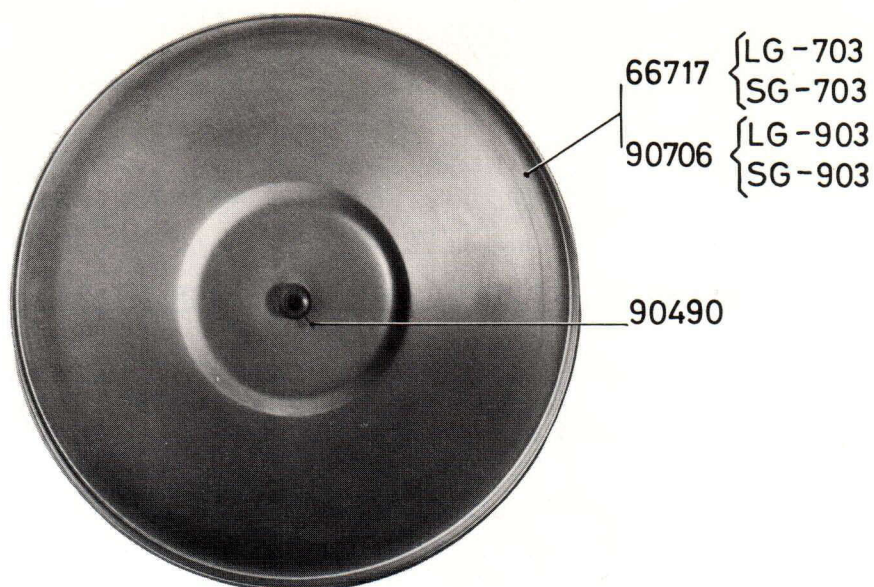

Fig.3
VISSA JUSTERINGAR KAN GÖRAS GENOM ATT TA BORT SKIVTALLRIKEN FIG 3, DÅ EN DEL AV MEKANISMEN BLIR ÅTKOMLIG. MÅSTE EMELLERTID JUSTERINGAR UTFÖRAS UNDER BASPLATTAN (1) FIG 2, BORTTAGES SKIVSPELARENS SOCKEL GENOM ATT SKRUVA BORT DE FYRA FÄSTSKRUVARNA I SOCKELNS BOTTEN.